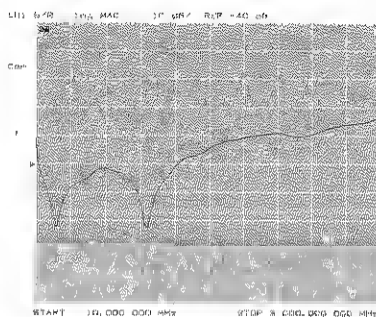

Figure 19. Plot of LO to RF isolation of a mixer.
8. The resulting display shows the mixer's LO to RF isolation (figure 19)